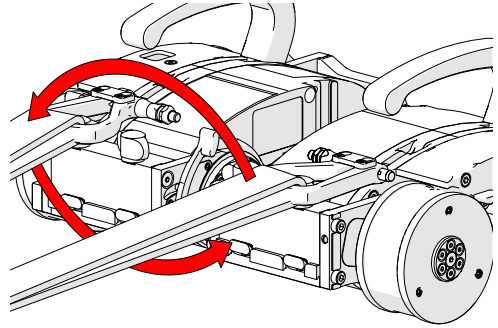

Fig. 83 - Proper shackle setup
2. Reverse the lifting sling and shackles (*Fig. 83*) so that the shackles are free to lay down flat, allowing for a low profile sling setup.